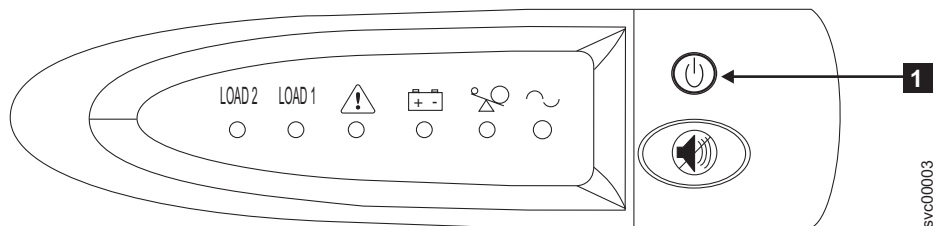

Figure 298. The 2145 UPS-1U front-panel assembly
1. At the front of the 2145 UPS-1U, press and hold the on/off button (**1** in Figure 298) until the power light is extinguished (approximately five seconds). On some versions of the 2145 UPS-1U, you need a pointed device, such as a screwdriver, to press the on/off button. The 2145 UPS-1U enters standby mode.